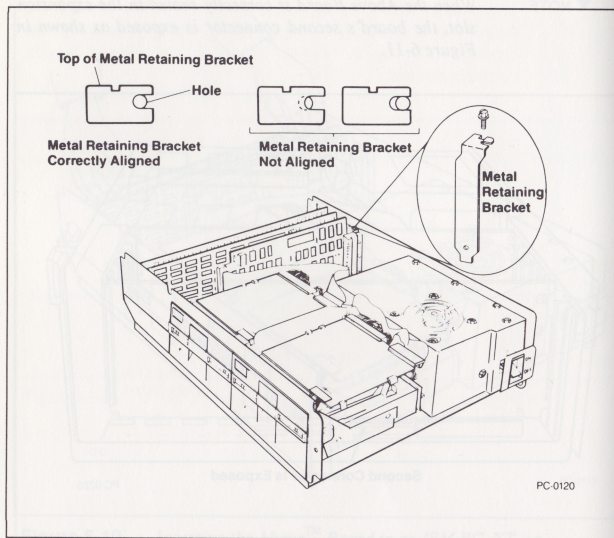

Figure 6-12 Aligning and fastening the metal retaining bracket to the panel of an IBM PC, XT, or compatible computer
- 8 Align the opening in the top of the Above Board's metal retaining bracket with the hole in the top edge of the rear panel of the system unit as shown in Figure 6-12. Fasten the metal retaining bracket to the panel with the screw you removed in step 2.